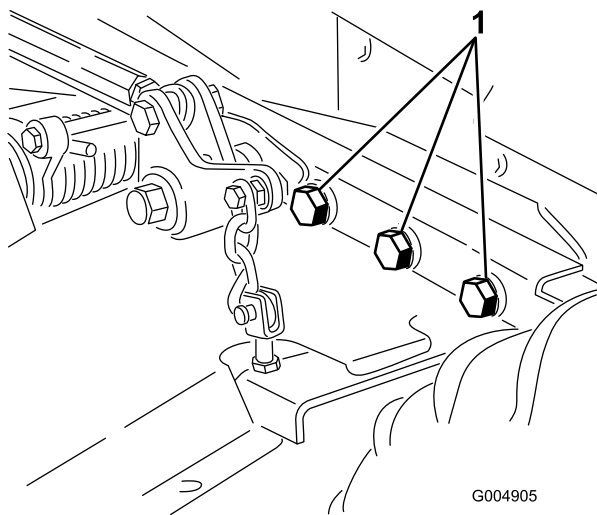

Figure 76
4. Check all fasteners for looseness and tighten them as necessary. Especially torque the 6 bolts securing the mower deck frame to the traction unit (Figure 76) to 265 ft-lb (359 N·m).